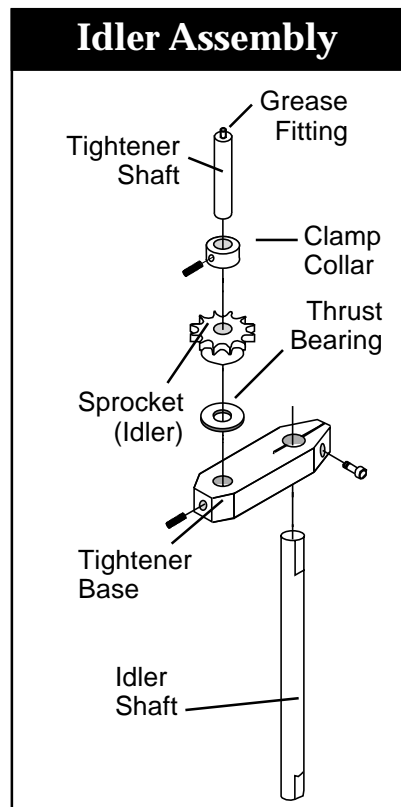

Figure 4-1.
It is recommended you grease the idler assembly, for both the metric and ANSI single drive models, every six (6) months after installation. Note the order of assembly (see Figure 4-1).